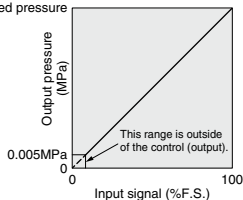

Figure 1. Input/output characteristics chart
- Note 1) Please refer to Figure 1 for the relationship between set pressure and input. Because the maximum set pressure differs for each pressure display, refer to page 945.